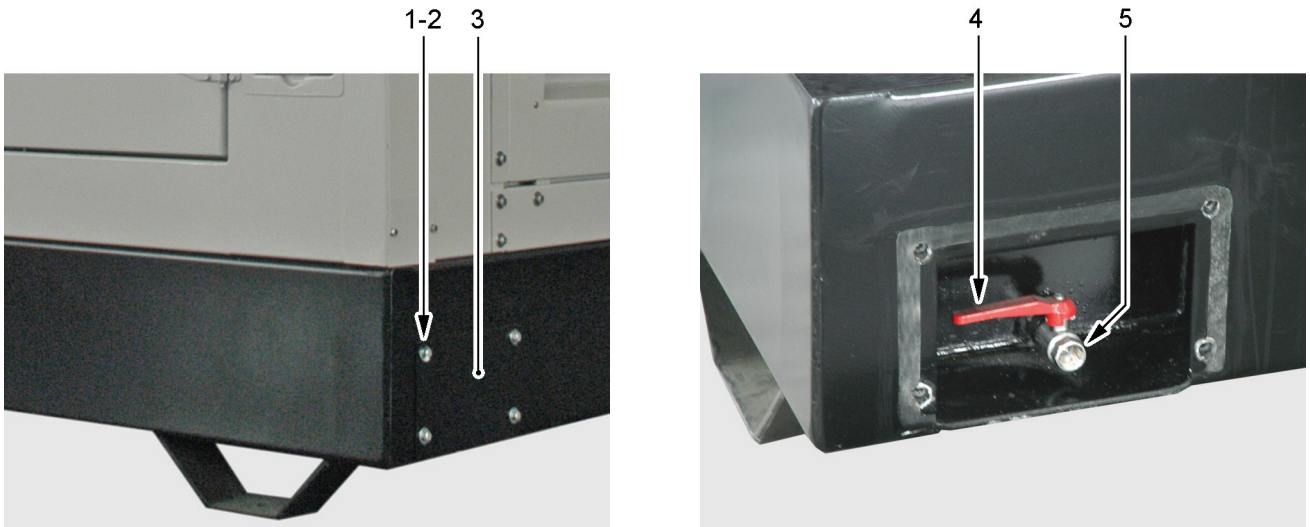

Figure 4.2 - Draining fuel from tank
- 2) Unscrew the screws (see Figure 4.2/1) fastening the access cover (3) to the fuel drain cock (5), situated in the generator right side; then remove the screws (1), the washers (2) and the cover (3).
- 3) Position under the drain cock (5) a suitable receptacle, and, by acting on lever (4), slowly drain all the fuel contained inside the tank; then, by acting on lever (4), close the drain cock (5).